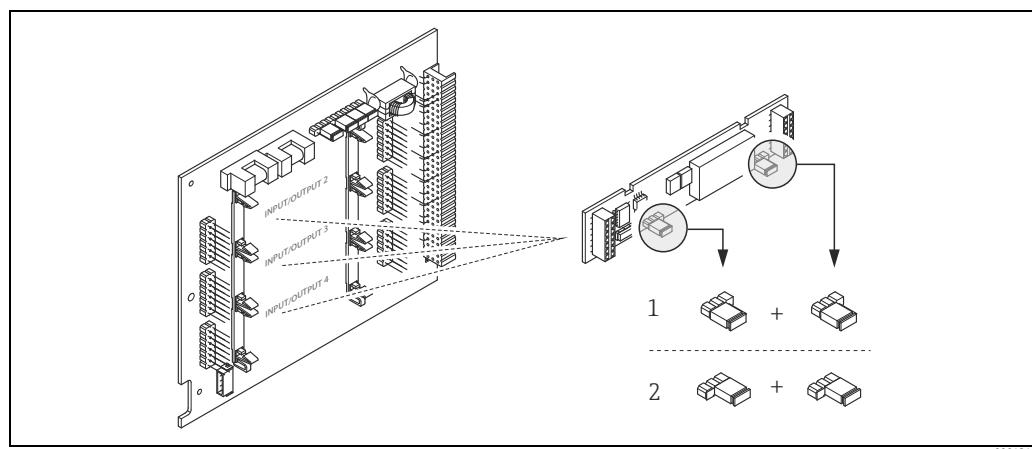
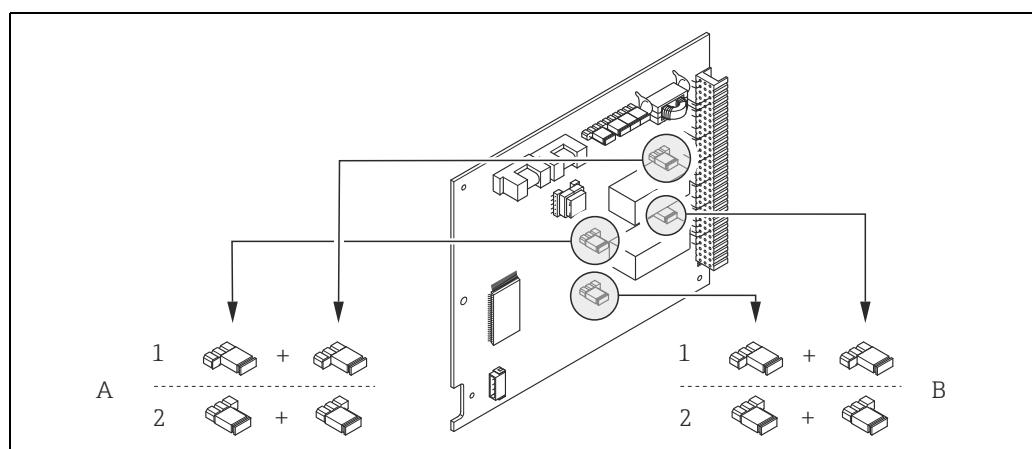

Fig. 57: Configuring relay contacts (NC/NO) for the flexible module board.
Fig. 58: Configuring relay contacts (NC/NO) for the fixed module board.
3. Position jumpers → Fig. 57, → Fig. 58